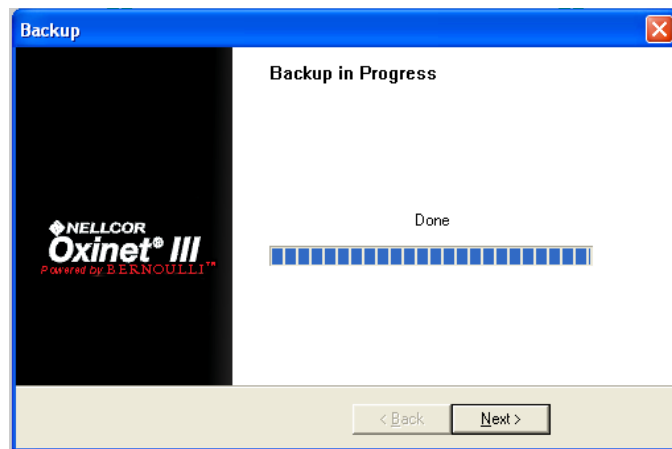

Figure 13: Backup in Progress — Done
- 4 When the backup process is complete, the word **Done** appears (Figure 13).